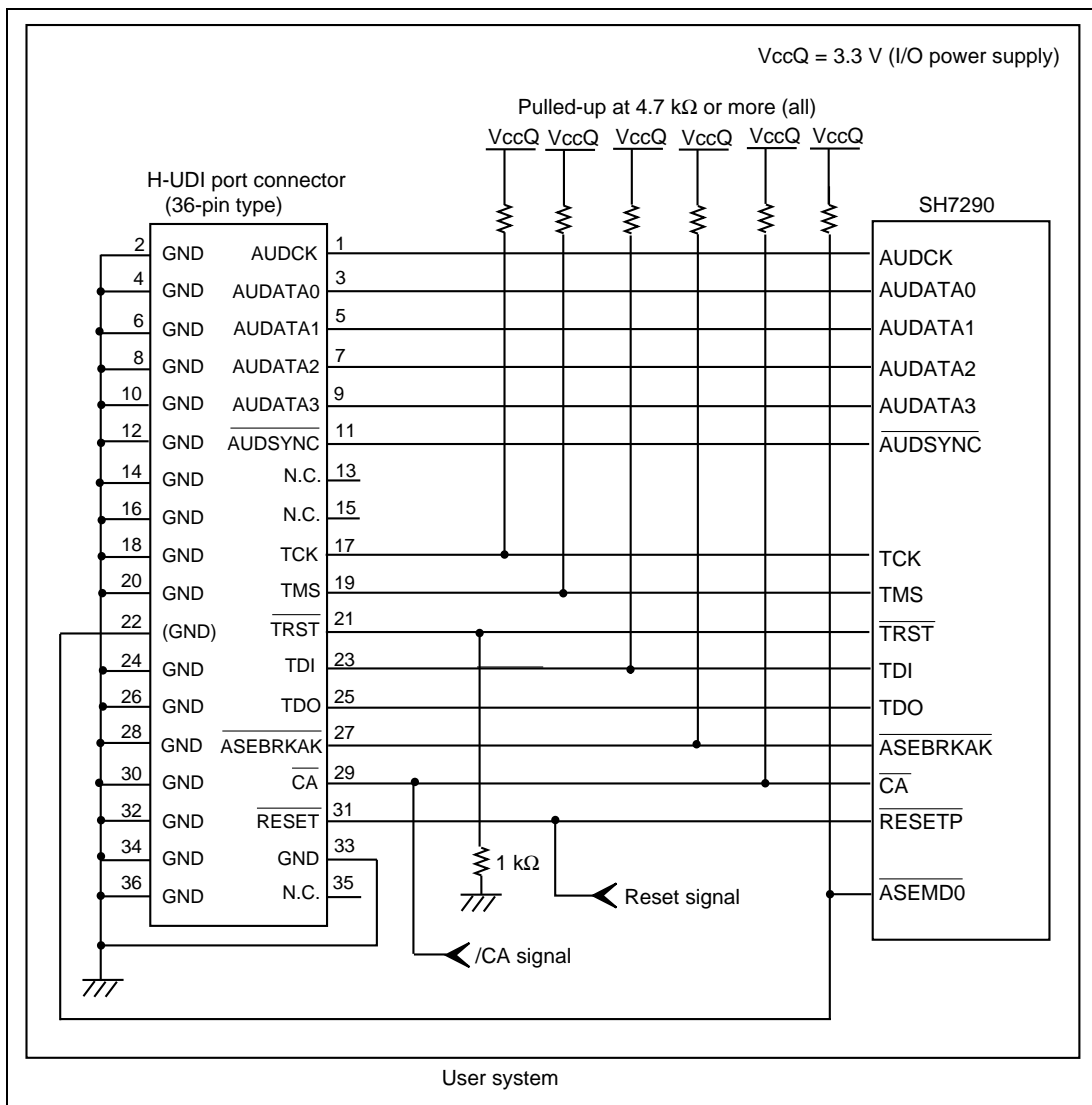

Figure 1.4 Recommended Circuit for Connection between the H-UDI Port Connector and MPU when the Emulator is in Use (36-Pin Type UVCC Not Connected)
9. Changing the emulator switches (SW2 = 0 and SW3 = 0) allows pin 29 to be used as the /CA pin. With this setting, supplying the VccQ to the UVCC pin is not available. Thus the I/O voltage level of the user system interface will be fixed to 3.3 V. Pin 15 must be N.C (open), as shown in figure 1.4.
When the circuit is connected as shown in figure 1.4, the switches of the emulator are set as SW2 = 0 and SW3 = 0. For details, refer to section 3.8, Setting the DIP Switches, in the Debugger Part of the SuperH™ Family E10A-USB Emulator User's Manual.